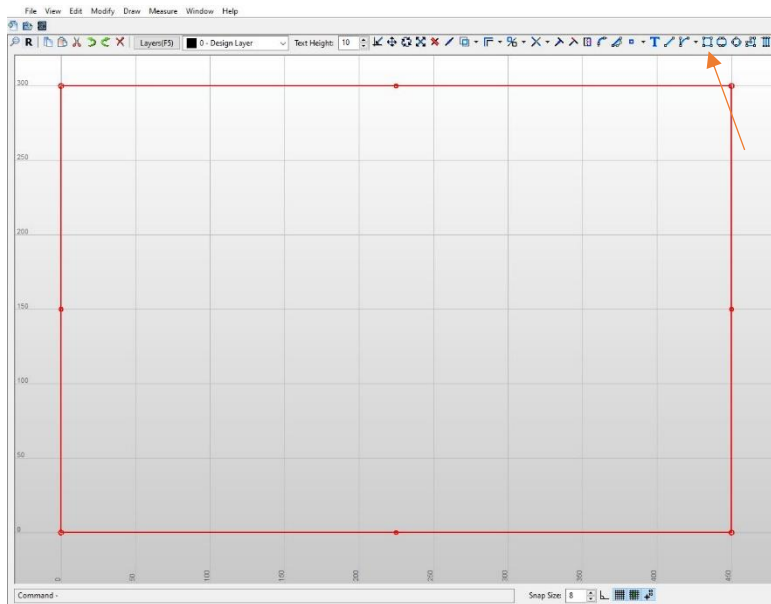

Figure 421
10. **RECTANGLE:** Draw a rectangle  on layer 3 with a length of 450mm and a height of 300mm with its start point on the origin (Figure 421). This rectangle represents the outer boundary of our foam insert.